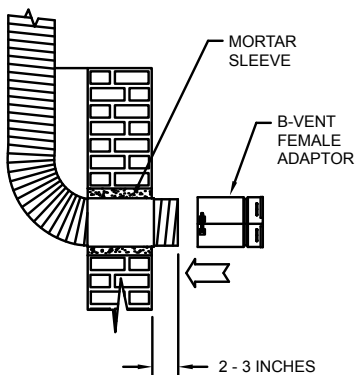

Figure 8
Step 7. The Flex Liner should extend at least 2 inches beyond the flange on the Mortar Sleeve. If Type B Gas Vent or the DuraConnect Flexible Vent Connector is to be used between the appliance and the chimney liner, slide the Flex Coupling or B-Vent Female Adaptor over the Flex Pipe, and secure with either a nut & bolt or sheet metal screw, as appropriate. Refer to **Figure 8**. If a single-wall galvanized steel Vent Connector is to be used between the appliance and the chimney liner, attach the Flex Coupling or B-Vent Female Adaptor to the Flex Liner. Crimp the end of the Vent Connector and attach to the Flex Coupling or B-Vent Female Adaptor.